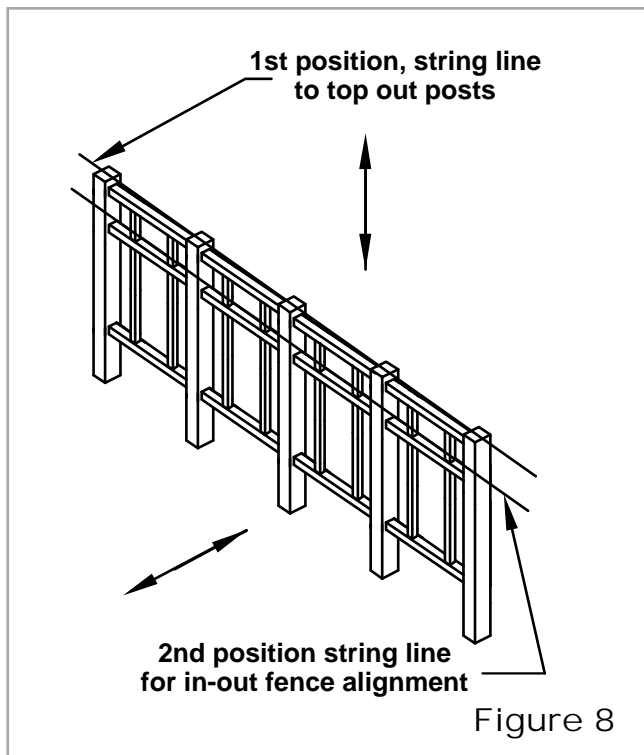

Figure 8
3. Once the line is set, re-level and top out the two end posts. Take the string down and move it to the top of these two posts. Raise and lower posts as necessary to give the fence line the best looking top possible. After line is topped out, put string to the outside of these posts near the top. Then walk the line and push all the posts over to the point where they are barely touching the string. (Figure 8)